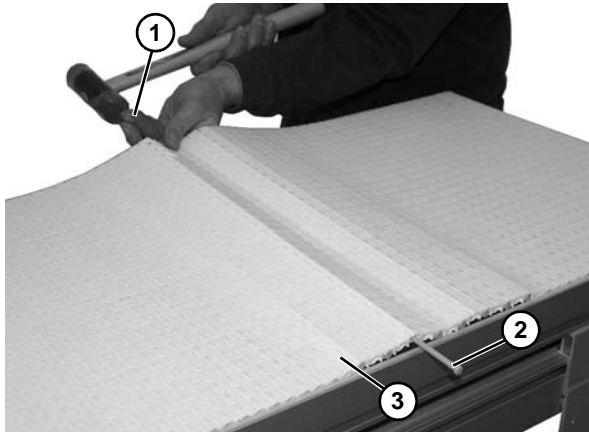

Figure 39
1. Use a punch and hammer to push the belt rod (Figure 39, item 1) out by striking the rod end opposite the retaining head (Figure 39, item 2).
2. Slide the old belt (Figure 39, item 3) off the conveyor frame.